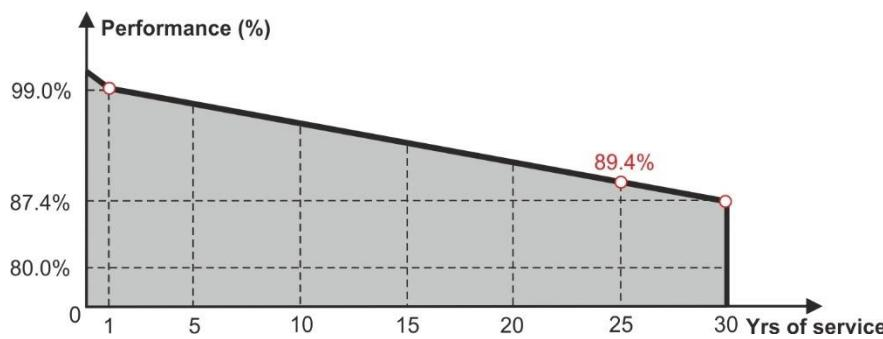

Fig. 23: Example of the Years/Performance curve of a PV module
- On the basis of these values, the instrument automatically calculates the Years/Performance curve (see Fig. 23) from which to derive the performance loss control value % used to calculate the I-V curve (see § 6.4.5 and § 11.3)